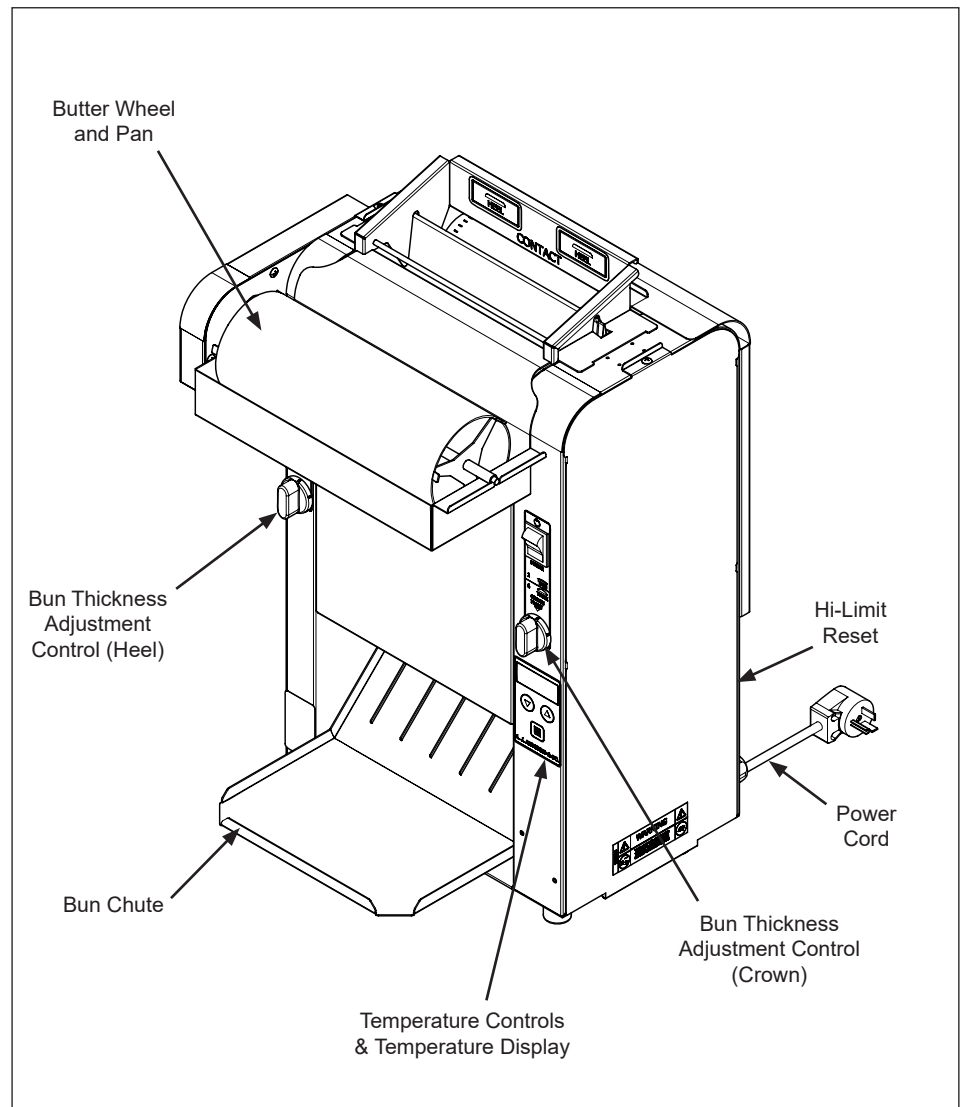

Figure 3. VCTM-2 Toaster
1. Set the Bun Thickness Adjustment Controls (Figure 3).
**NOTE:** The display (Figure 3) flashes "LO" during warm-up. "USE" appears when the toaster is ready for use.
5. Toasted buns drop onto the Bun Chute (Figure 3).
A Hi-Limit Control turns off power to the unit if it overheats. To reset the control, allow the unit to cool, then locate the Reset Button at the rear of the unit. Remove the black protective cap, press the Reset Button, and reinstall the protective cap (Figure 3).